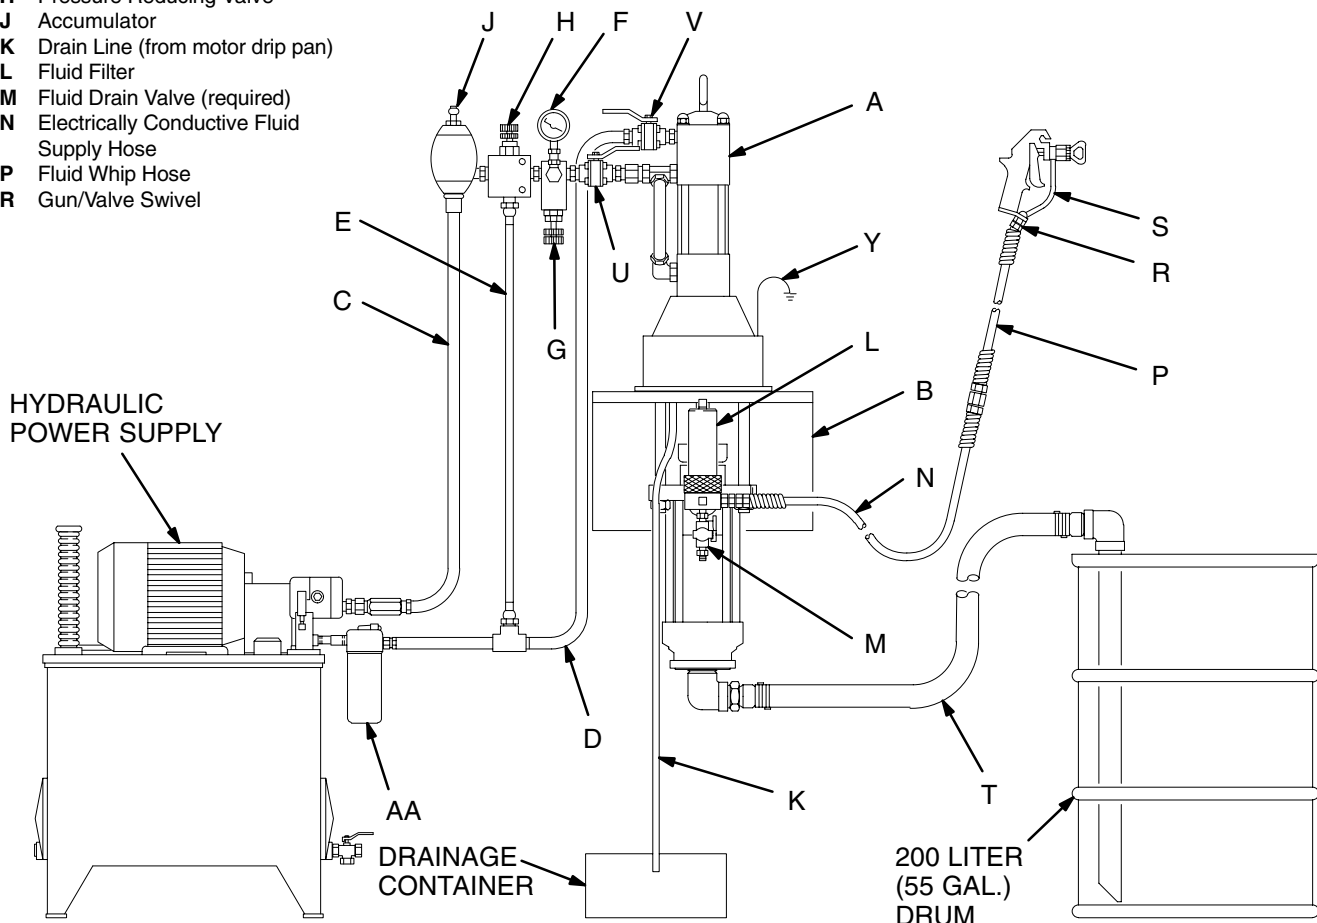

Fig. 4
Fig. 4 is only a guide for selecting and installing system components and accessories. Contact your Graco distributor for assistance in designing a system to suit your particular needs.
Mount the pump (A) to suit the type of installation planned. Fig. 4 illustrates a wall-mounted system. Pump dimensions and the mounting hole layout are shown on pages 36 and 37.
On the hydraulic supply line (C), install the following accessories in the order shown in Fig. 4, using adapters as necessary:
- **A shutoff valve (U)** isolates the pump for service.
- **A fluid pressure gauge (F)** to monitor hydraulic oil pressure to the motor and to avoid overpressurizing the motor or displacement pump, and **a pressure- and temperature-compensated flow control valve (G)** to prevent the motor from running too fast and possibly damaging itself.
- **A pressure reducing valve (H), with a drain line (E)** run directly to the hydraulic return line (D).
- **An accumulator (J)** to reduce the hammering effect caused by the motor reversing direction.
- **A shutoff valve (V)** isolates the pump for service.
- **A filter (AA)** of 10 micron size.
Install the following accessories in the positions shown in Fig. 4, using adapters as necessary:
- **A fluid filter (L)** with a 60 mesh (250 micron) stainless steel element, to filter particles from the fluid as it leaves the pump. It includes a **fluid drain valve (M)**, which is required in your system to relieve fluid pressure in the hose and gun (see the **WARNING** at left).
- **A gun or valve (S)** dispenses the fluid. The gun shown in Fig. 4 is an airless spray gun for light to medium viscosity fluids.
- **A gun swivel (R)** allows freer gun movement.
- **A suction kit (T)** allows the pump to draw fluid from a 200 liter (55 gallon) drum.
1. Refer to Fig. 4 on page 10. Connect the suction kit (T) to the pump's fluid inlet, and place the tube into the fluid supply.
3. Make certain that the supply line shutoff valve (U) and the return line shutoff valve (V) are closed.
5. Hold a metal part of the gun/valve (S) firmly to the side of a grounded metal pail and hold the trigger open.
6. Open the return line shutoff valve (V) *first*, then slowly open the supply line shutoff valve (U).